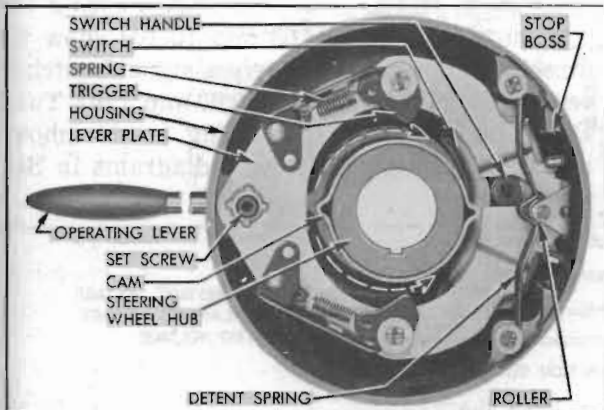

Figure 10-99—Direction Signal Switch in Off Position
into a stub shaft anchored to a plate in switch housing which operates the switch. The stub shaft fits into a recess in the housing to provide a bearing or pivot point for the lever and plate. A slot in right side of the lever plate engages the bakelite handle of the switch which is mounted in the housing below the lever plate. A detent spring mounted in the housing bears against a roller mounted on the lever plate to hold the plate in whatever position it may be set. Bosses in the housing provide stops for the plate when set for either turn. See figure 10-99.
The trip mechanism for returning the switch to the "off" position after a turn is completed consists of a cam on the steering wheel hub, and two spring loaded triggers mounted on the lever plate. The cam is a round steel stamping having two projecting ribs, and it is rigidly mounted on the wheel hub. When the switch is in the "off" position, the lever plate is centered around the cam so that the ribs of cam cannot contact either trigger when steering wheel is turned. See figure 10-99.
2. Use a  $\frac{1}{8}$ " hex (Allen) wrench to loosen the operating lever set screw and remove lever. See figure 10-99. NOTE: If only the lever requires replacement remove horn button only, then insert wrench through a puller hole in steering wheel to loosen the set screw.